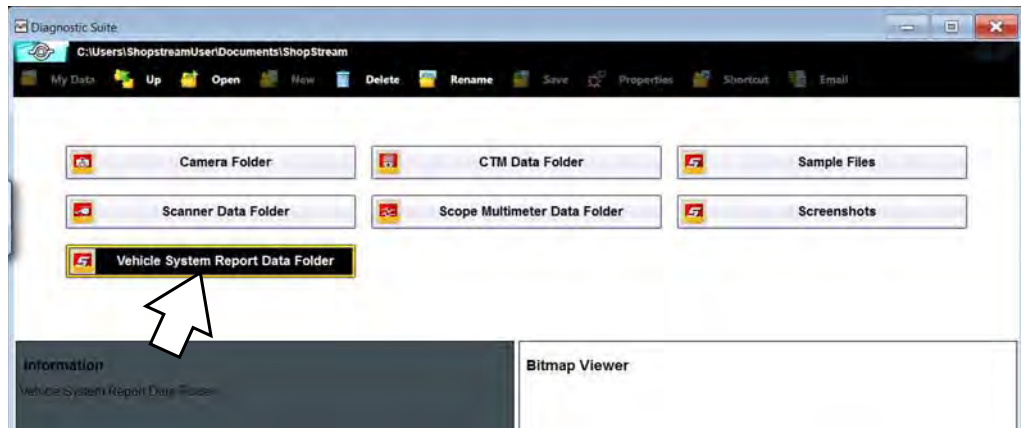

Figure 4-23
2. Select and open the Vehicle System Report Data Folder (Figure 4-23).